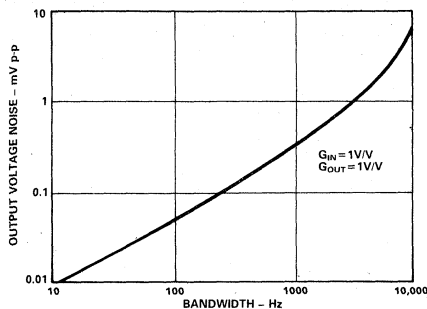

Figure 8. Typical AD295 - Output Voltage Noise vs. Bandwidth
**Output Voltage Noise vs. Bandwidth:** Voltage noise referred to the output is dependent on gain, bandwidth, input and output noise contributions. Figure 8 illustrates the typical output noise in mV peak-to-peak in a 10Hz to 10kHz frequency range.